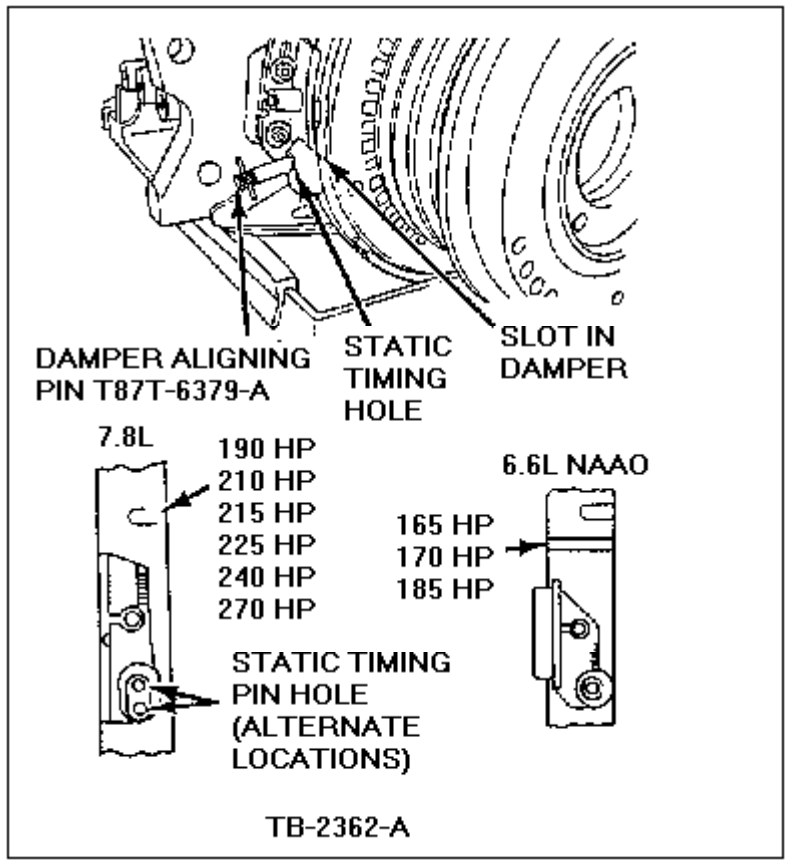

Figure 1 - Article 91-21-14
- b. Fit Damper Aligning Pin (T87T-6379-A) through the timing bracket into the correct crankshaft damper groove, Figure 1.